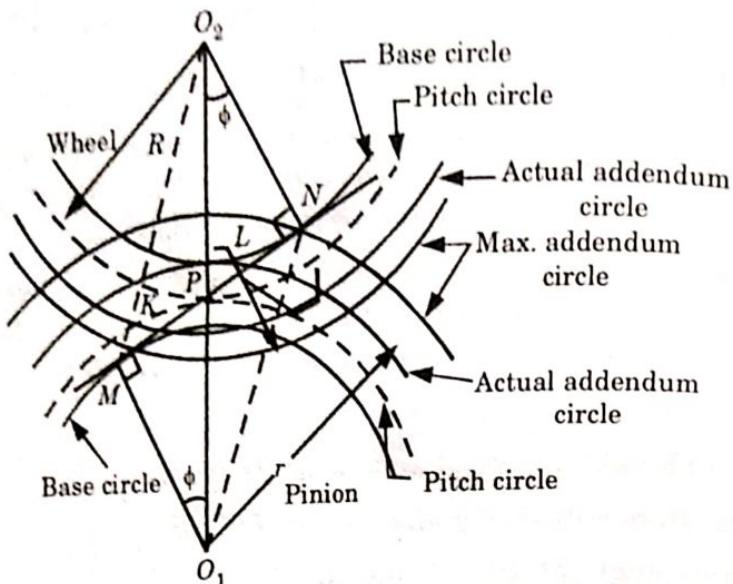

Fig. 2.21.1. Interference in involute gears.
2. From ΔO_1NP , (Refer Fig. 2.21.1),